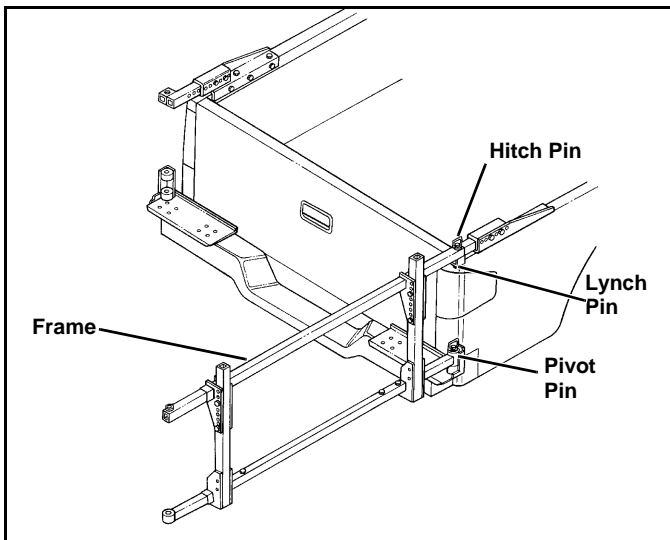

Figure 1-1
2. With the Spreader Frame swung out to the rear, place the Pivot Pin of the Lower Right Attaching Tube into the hole in the collar of the Pivot Bracket on the right side of the vehicle bumper. (See Figure 1-1)
3. Align the hole in the Right Side Upper Arm of the Frame with the hole in the right side Mounting Bracket on the side rail of the vehicle box. Install Hitch Pins through Mounting Brackets and Hopper Frame. Install Lynch Pin into Hitch Pin to secure it in place. (See Figure 1-1)
4. Swing the Hopper Frame forward until the hole in the Lower Left Arm of the Frame is aligned with the hole in the Latch Bracket on the left side of the vehicle bumper. Insert the Latch Pin through the hole in the Latch Bracket and lower mounting arm and retain the Latch Pin with the Retaining Pin through the Latch bracket and Latch Pin. (See Figure 1-1)